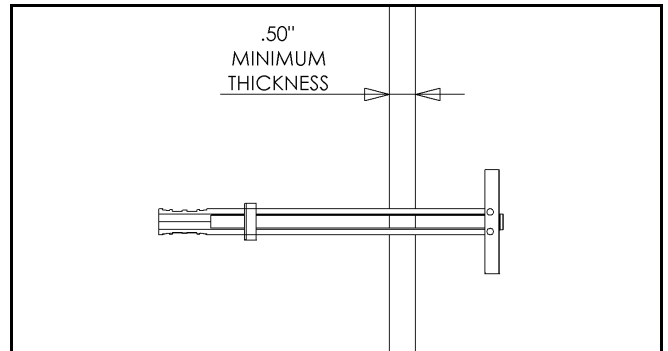

Figure 10:
4. With plastic anchor (100) inserted in hole, slide finger grip together to turn end inside hole perpendicular to wall (see Figure 10).